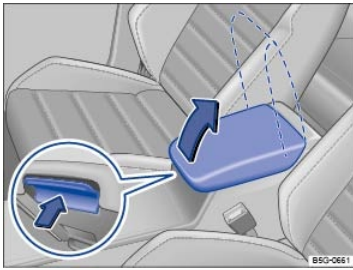

Fig. 136 In the front center armrest: Storage compartment.
- *To open:* Push the release button (magnified view) and lift the center armrest up as far as it will go in the direction of the large arrow ⇒ Fig. 136.